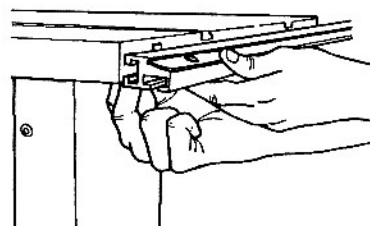

Fig. A-36
42. Working from right to left, insert all four locking plates in the T-channel of the rail until the rail's end is flush with the left side of the table, as shown in Fig. A-36.